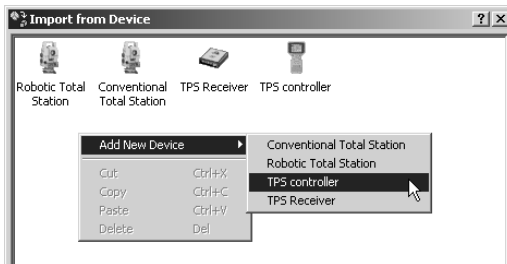

Figure 2-5. Import From Device – Pop-up Menu
1. To include a new device to the Import From Device list, right-click within the upper panel, click Add New Device from the pop-menu, then select the desired device type (Figure 2-5).